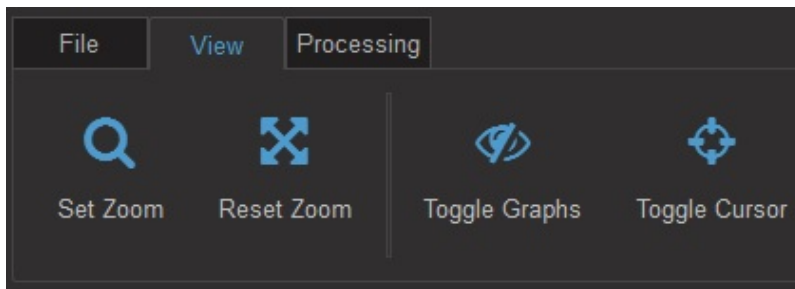

Figure 4.15: View Tab
2. The **View tab** (Fig. 4.15) is used to manipulate the appearance of the displayed data.